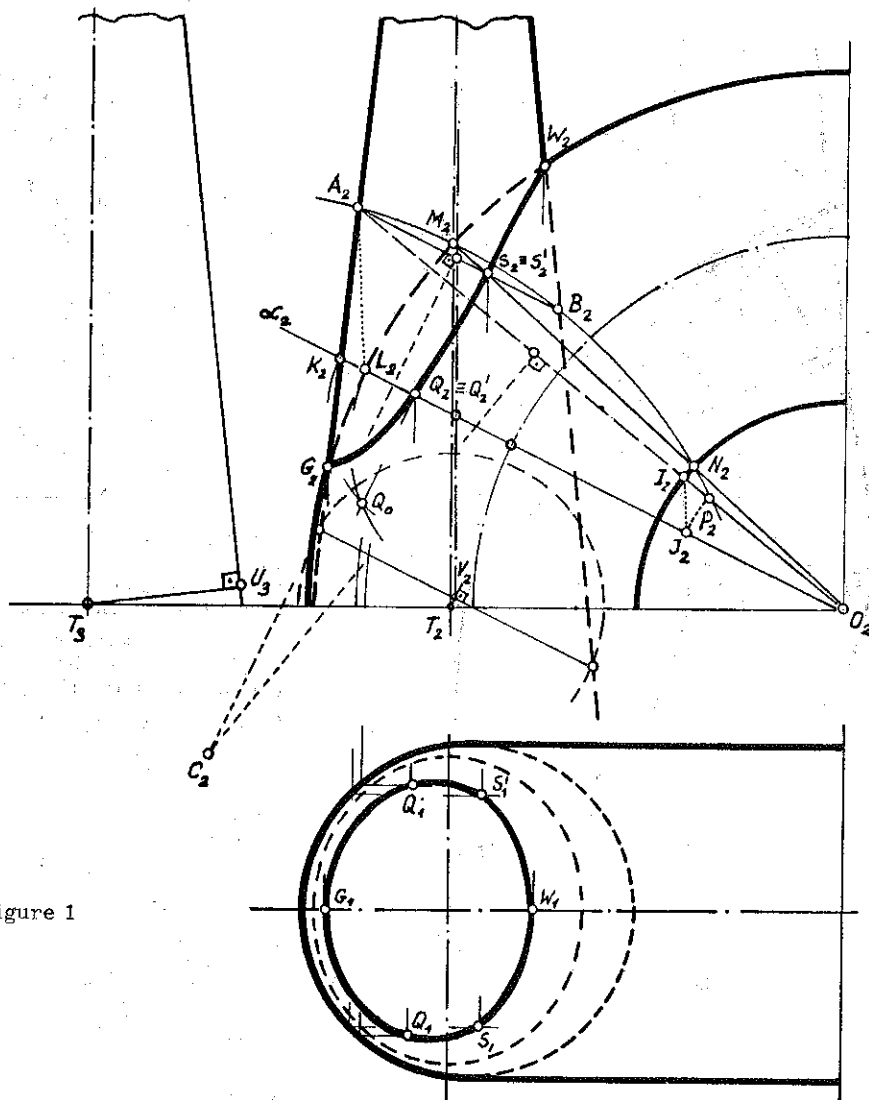

Figure 1
A. First we find the direction of the circular intersections of the elliptic cone. This is done by intersecting the cone with a sphere center $T(T_2)$, radius $R = T_3U_3$ (Fig. 1). The radius is determined in the partial side view (2). Planes, parallel to the obtained circular intersection of the cone and sphere, cut also the cone in circles. The centers of these circles will be on a straight line joining point V_2 with the vertex of the cone; see Fig. 1.
A plane in the above-mentioned circular intersection direction, that passes through the axis of revolution of the torus (in projection-- α_2 through O_2), intersects both the cone and the torus as circles. In Fig. 1 the projections of these circles (segments on Π_2) are signed by the points taken on them $K(K_2)$ and $L(L_2)$. This plane can be called "Main circular intersection plane".
By the way, the two mentioned circles intersect in a pair of common points - Q and Q' of the given surfaces. The projections $Q_2 = Q_1'$ are found by an auxiliary projection on the spot (see Q_0). In Fig. 1 there are also shown the highest and lowest intersection line points W and G .
For that purpose we use non-concentric auxiliary spheres. The way to find the center of every sphere is shown by an example (Fig. 1).